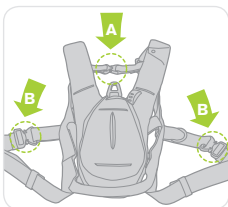

Figure 11
- Put arms through the shoulder straps and connect chest buckle (A) (Figure 11).
- Connect the leg buckles (B) (Figure 11). Adjust the leg strap by pulling the straps through the buckles to achieve a snug fit (Figure 14).